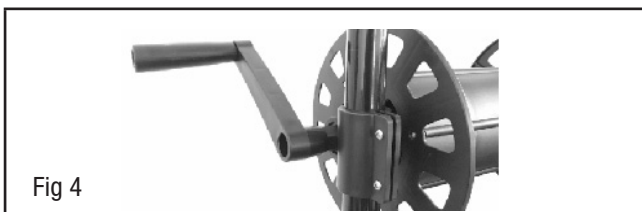

Fig 4
4. Insert the handle into the hose reel's mounting hole (Fig 4).